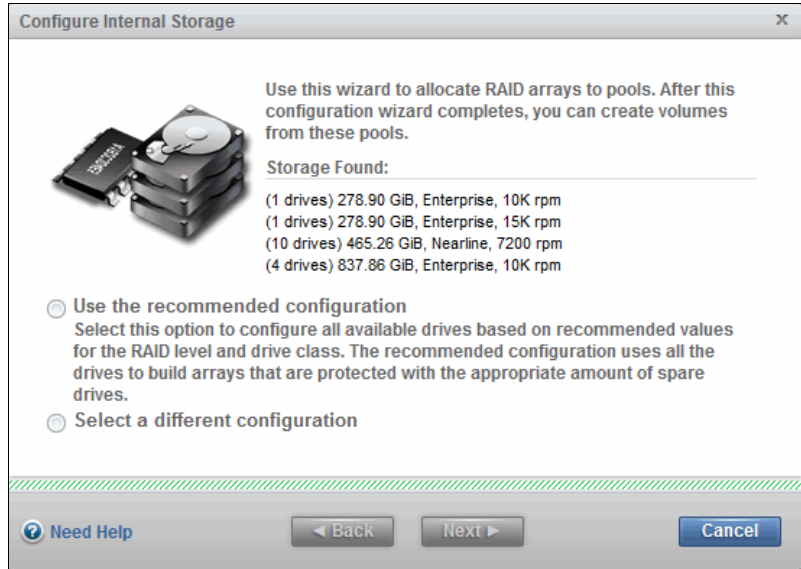

Figure 3-64 Configure Internal Storage wizard
2. Using this wizard, is it possible to configure the RAID properties and pool allocation of the internal storage. Figure 3-64 shows the Configure Internal Storage wizard.